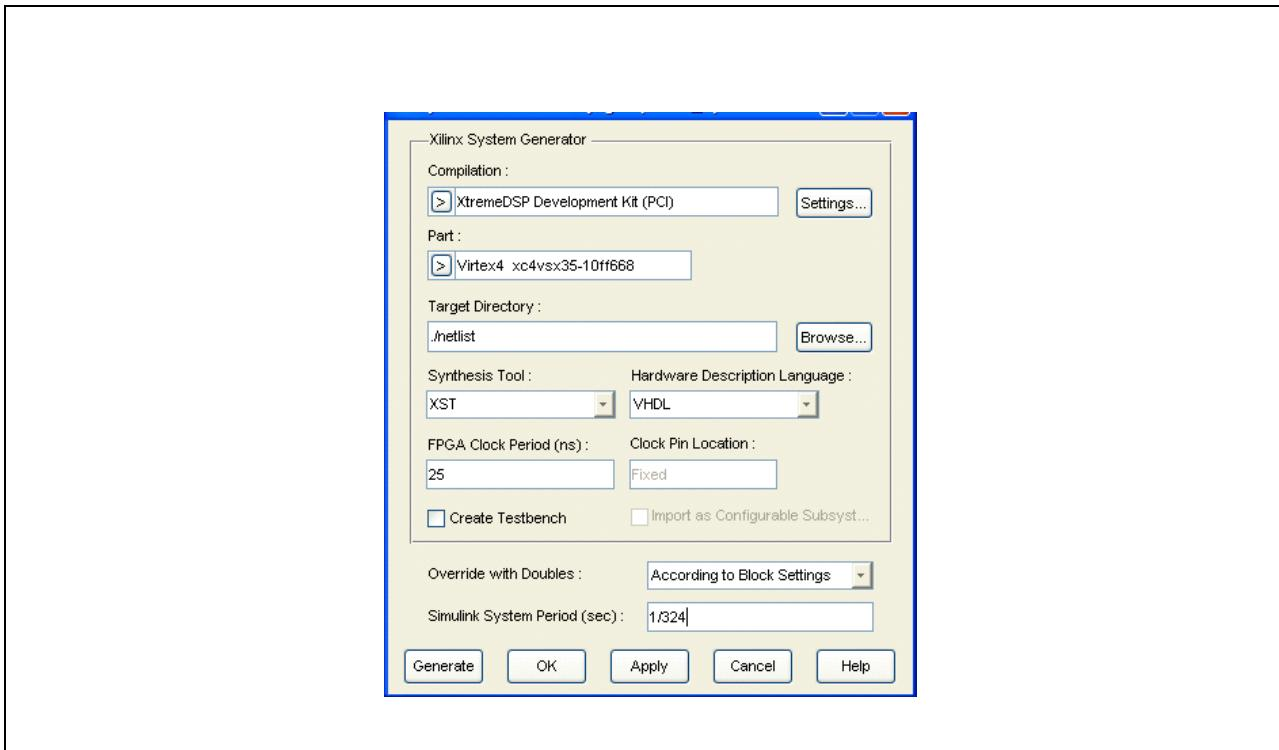

Figure 140: System Generator Parameters for Chipscope Example
- Check that the System Generator parameters match the ones shown in Figure 140 on page 214 and press Generate.